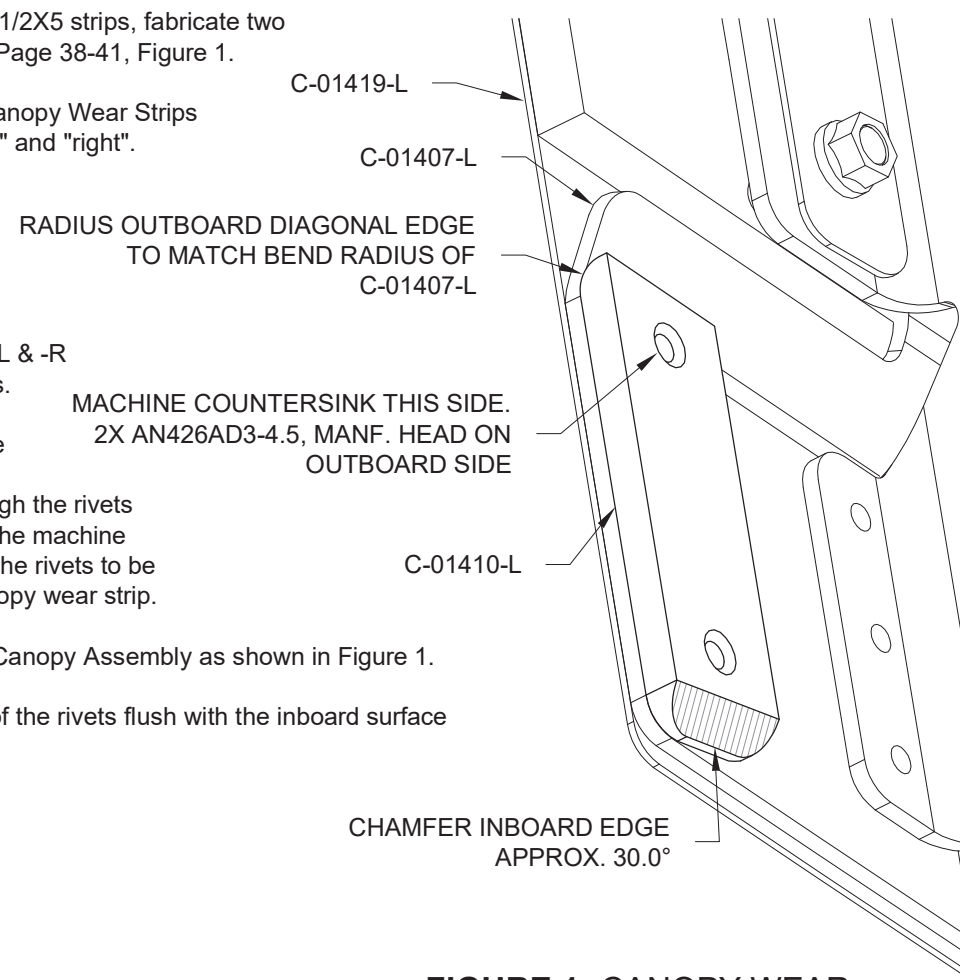

FIGURE 1: CANOPY WEAR STRIP INSTALLATION
Step 6: Rivet the canopy wear strips to the Canopy Assembly as shown in Figure 1.